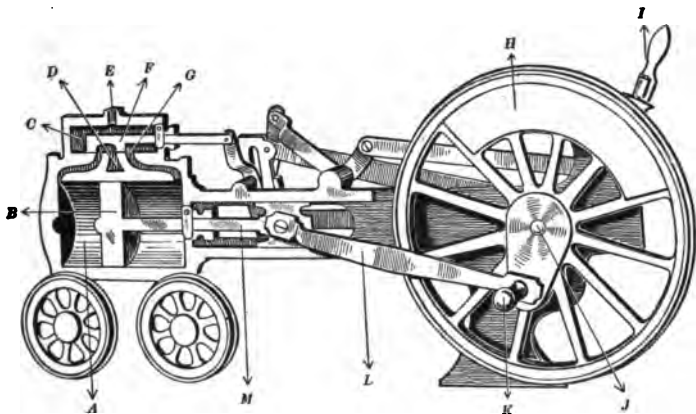

FIG. 33
What to use. Ring stand, two rings, flask, jet tube, gauze, Bunsen burner, one-hole rubber stopper, pulley, and a model of a locomotive. If the model is not available use figure 33.
What to do. 1. By reference to your previous experience, a textbook in physics, a cyclopedia, or any other source, determine the ordinary names of the different parts of a steam engine and write these names near the proper letter in figure 33.
3. Next study the locomotive model as follows: Rotate the fly-wheel clockwise and bring the crank pin directly below the crank shaft (Fig. 33). Slide the reversing lever to the extreme right, and make a cross-section drawing of the cylinder and steam chest. Show the path of the live steam, the path of the exhaust steam, the direction of motion of the piston, and the forward or backward movement of the locomotive.